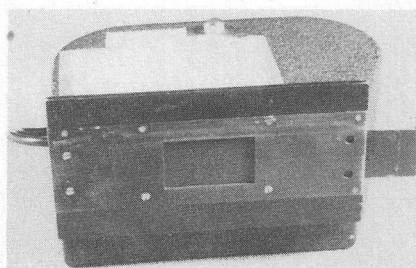

Figure 1-3
Refer to Figure 1-3 while reading the following description.
To attach the camera back to the lens unit, slide the back into the horizontal grooves from the right side of the lens unit. Be certain to push the magazine in all the way to prevent possible blurring of color images. Attach the 6-pin connector on the bottom of the magazine to the receptacle on the bottom of the lens section. Screw firmly in place. Always be certain the dark slide (which fits in the left side) is covering the camera back aperture as in Figure 1-3 when the magazine is exposed.
4. Pull the dark slide (figure 1-3) out far enough to expose the film.